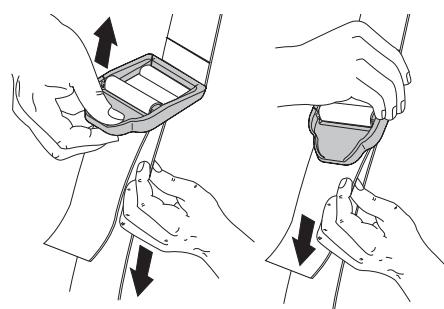

Fig. 5
4. Adjust length to fit the operator's size. Pull tab to lengthen, pull strap to shorten (Fig 5).